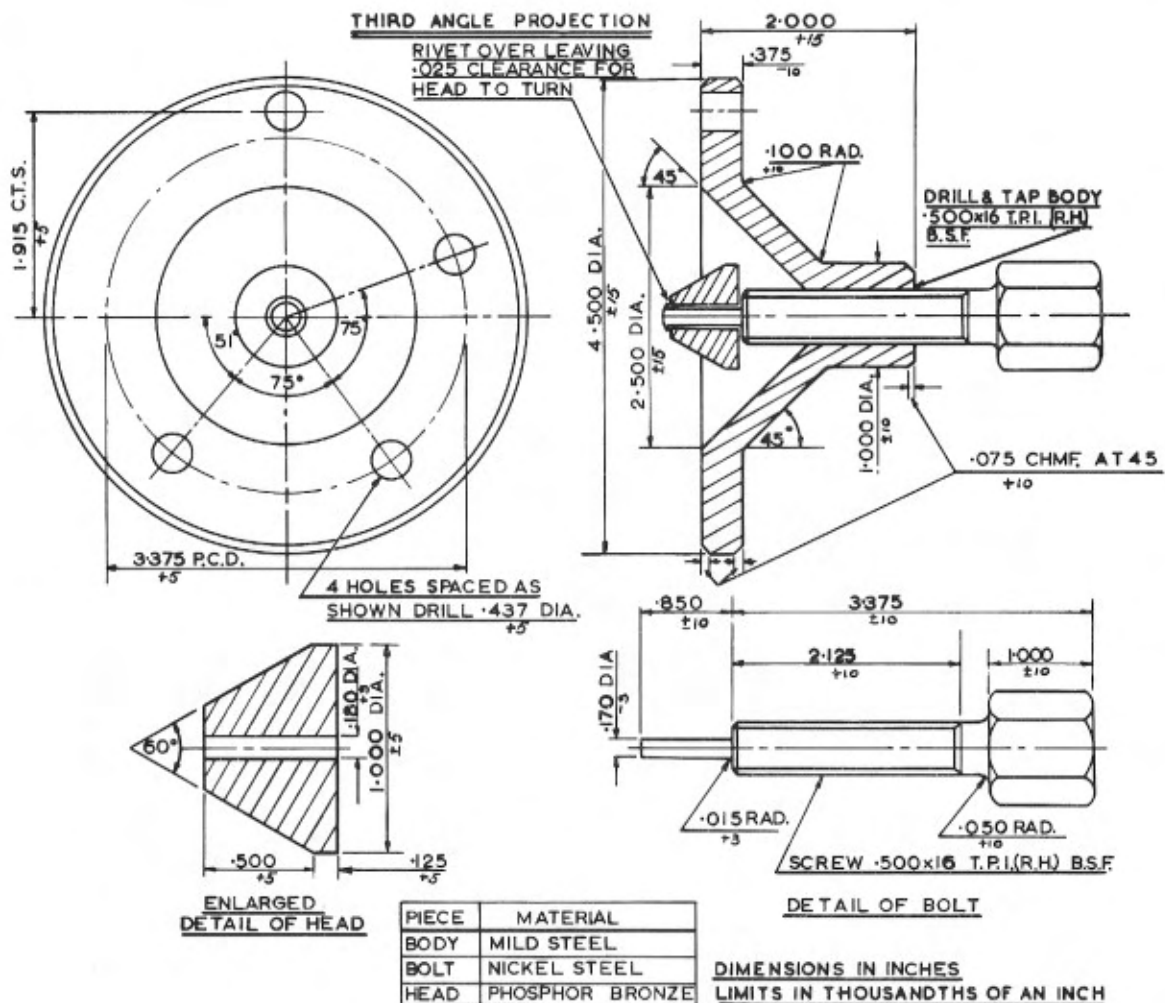

FIG. 5. EXTRACTOR - DIAPHRAGM.
- (b) Collect the plunger mechanism pin (72) from the end of the centre selector shaft, also collect the two .375" dia. and the three .500" dia. steel balls (71 & 74).
- (xx) Remove the two 5/16" (B.S.F.) nuts from the countersunk head screws holding the large circular diaphragm to the front end of the gearbox. Secure the extractor R-3181 (or one made from the detail drawing Fig.5) to the diaphragm in line with the 2nd motion shaft; withdraw the diaphragm complete with the 1st motion shaft, at the same time collecting the adjusting washer (54) and the constant mesh gear (53), TIE the adjusting washer to the gear.
- (xxi) Remove the first distance piece (52) from the 2nd motion shaft; withdraw the 3rd and 4th speed synchromesh assembly from the 3rd motion shaft, together with the reverse driving gear (51) from the 2nd motion shaft; remove the second distance piece (50).
- (xxii) Remove the constant mesh gear (49) and the adjusting washer (48) from the 2nd motion shaft and TIE the washer to the gear.
- (xxiii) Next, remove the 3rd motion shaft (30) as below:-
- NOTE: A mild steel drift, 12" long x $\frac{7}{8}$ " dia. will be required; one end of which should have a 60° chamfer to abut against the corresponding internal chamfer at the rear end of the 3rd motion shaft. Do NOT use a drift that will pass down the bore of the shaft, as this would damage the taper pin (19) near the centre of it.